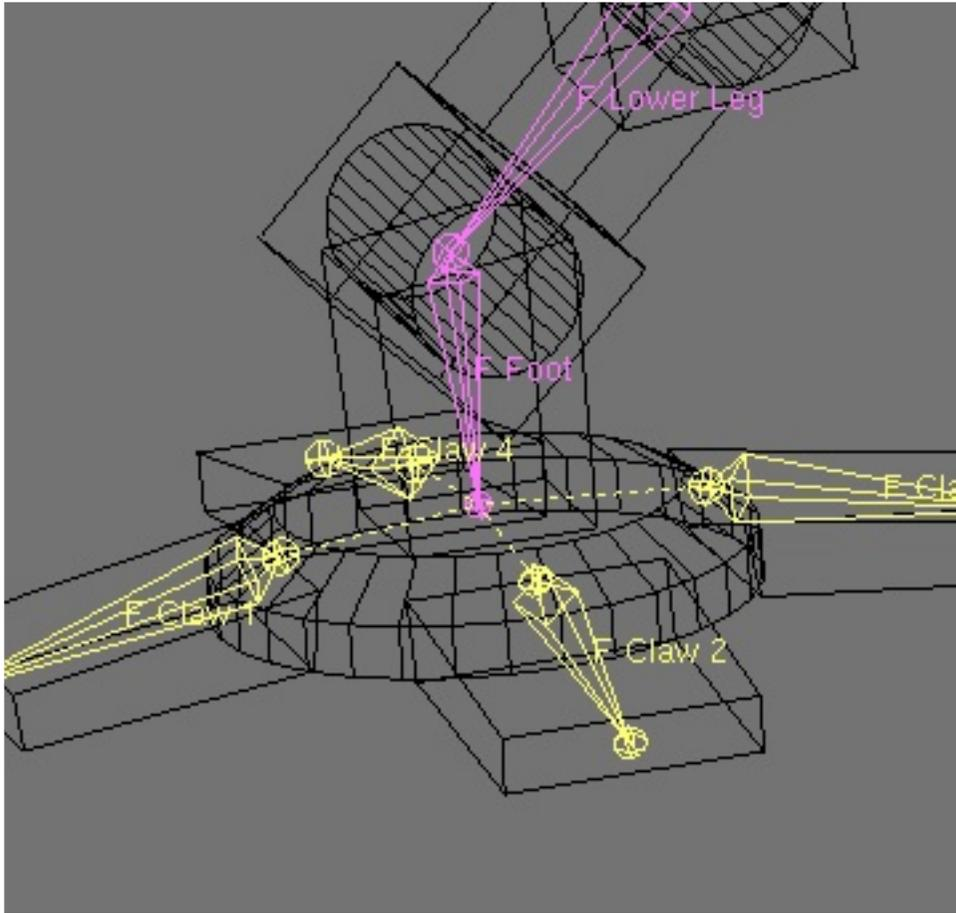

Fig 5. The four claw bones added to the mesh. Parent these to the Foot Bone.
**14.** Use the same snap method with the cursor to accurately place four claw bones on the four claws. Parent all four bones to the R Foot bone. You are adding all these bones to the same armature. Make sure you add bones to the same armature. So always go into edit mode of the armature before you add more bones. See Figure 5.